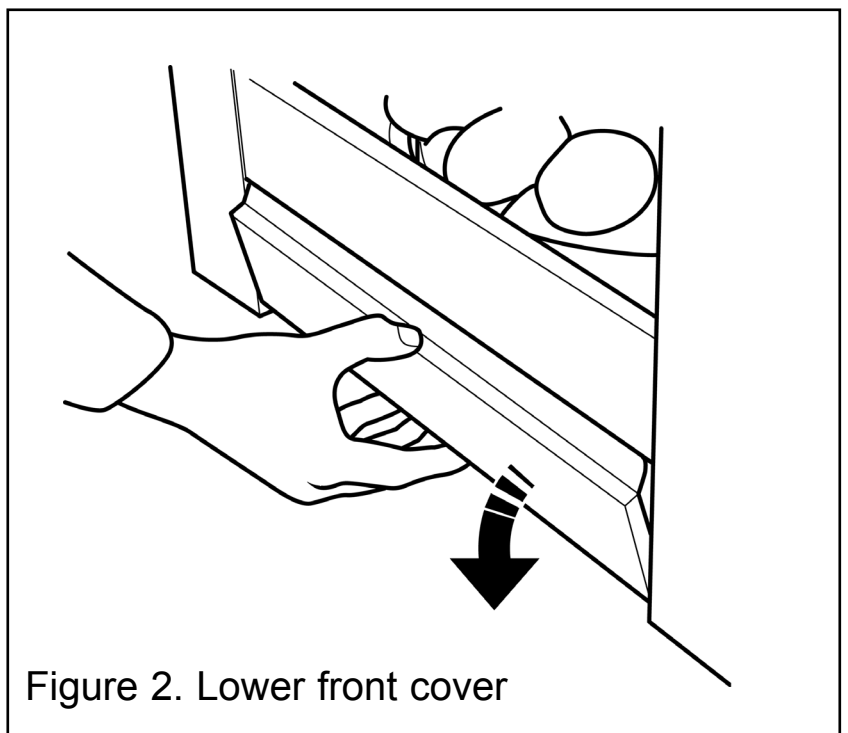

Figure 2. Lower front cover
- To get access to the control knob lower the bottom front cover. To do this, support the top and bottom of the lower front cover (See figure 2).